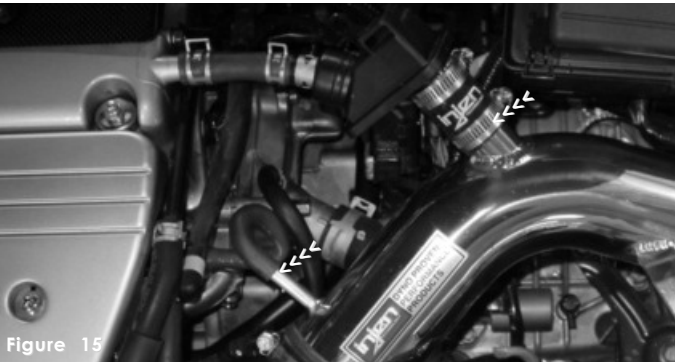

Figure 15
- 14- Check all connections on the air pre-chamber and the vacuum lines for proper fitting making sure that there are no vacuum leaks anywhere along the intake. (See fig. 15)